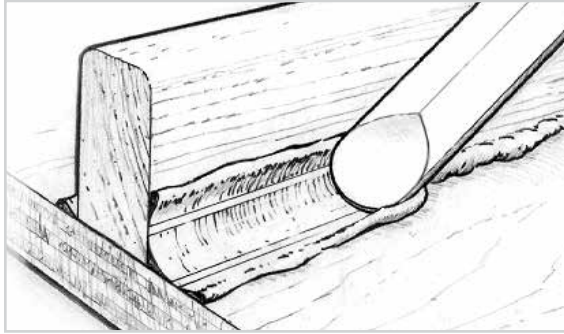

Figure 16-12 Shape and smooth the fillet with a rounded tool.
2. Shape and smooth the squeezed-out thick epoxy into a fillet by drawing a rounded filleting tool (mixing stick) along the joint, dragging excess material ahead of the tool and leaving a smooth cove-shaped fillet bordered on each side by a clean margin. Some excess filleting material will remain outside of the margin (Figure 16-12). Use the excess material to refill any voids. Smooth the fillet until you are satisfied with its appearance. A mixing stick will leave a fillet with about a $\frac{3}{8}$ " (9 mm) radius. For larger fillets, an 808 Plastic Squeegee, cut to shape or bent to the desired radius, works well. Apply additional thickened epoxy to fill voids or make larger fillets. Apply the mixture along the joint line with the rounded mixing stick, using enough mixture to create the desired size of fillet. For longer or multiple fillets, empty caulking gun cartridges or disposable cake decorating bags can be used. Cut the plastic tip to lay a bead of thickened epoxy large enough for the desired fillet size. Heavy duty, sealable food storage bags with one corner cut off may also be used.